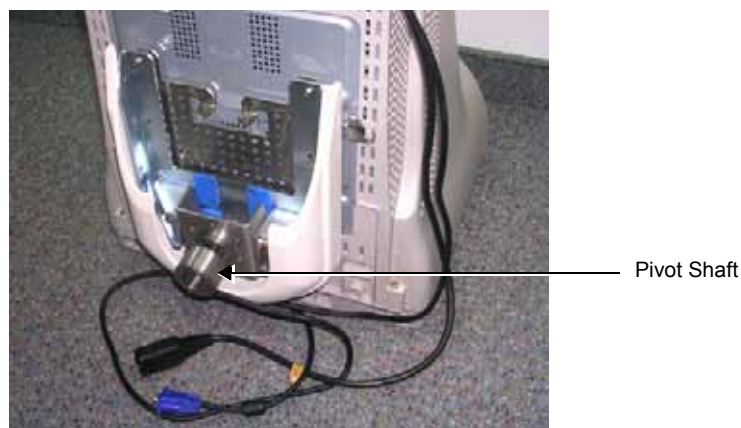

Figure 8-29 Samsung 15" Monitor - Viewed from Underside
- 1.) In the upright position, carefully lift the replacement monitor and insert its pivot shaft (Figure 8-29) through the Teflon washer and into the hole on the monitor base.